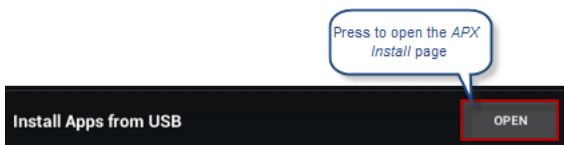

FIG. 107 App Manager window (AVAILABLE tab) - Install Apps from USB (OPEN) option
1. Press **OPEN** in the *Install Apps from USB* section of the App Manager page (FIG. 107) to open the *APX Install* page (FIG. 107):